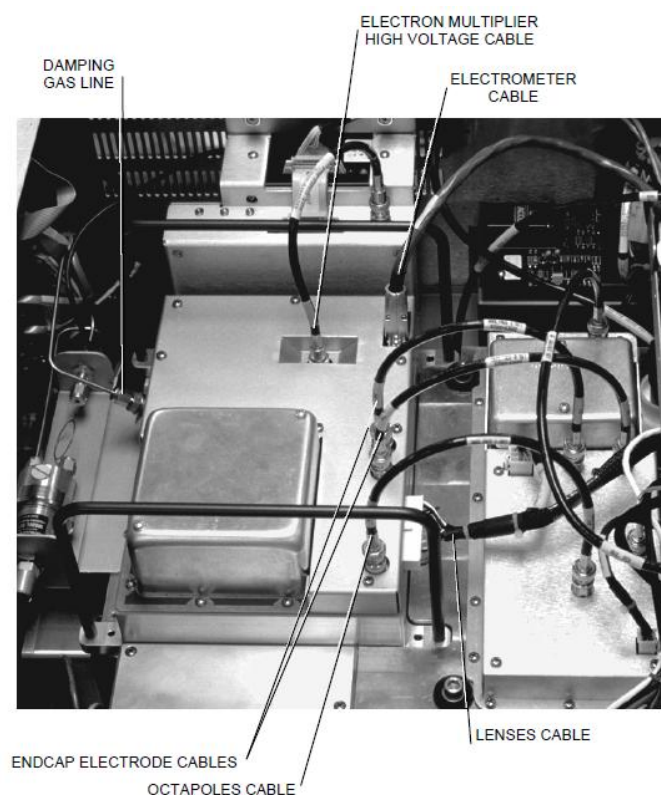

Figure 10. Electrical connections and damping gas line connection to the top cover plate of the vacuum manifold.
8.3.2. Remove the top cover plate of the vacuum manifold as follows (refer to Figure 10):
- 8.3.9.4. Use a 7/16-in. open-end wrench to reconnect the helium damping gas line to the fitting. See Figure 10.